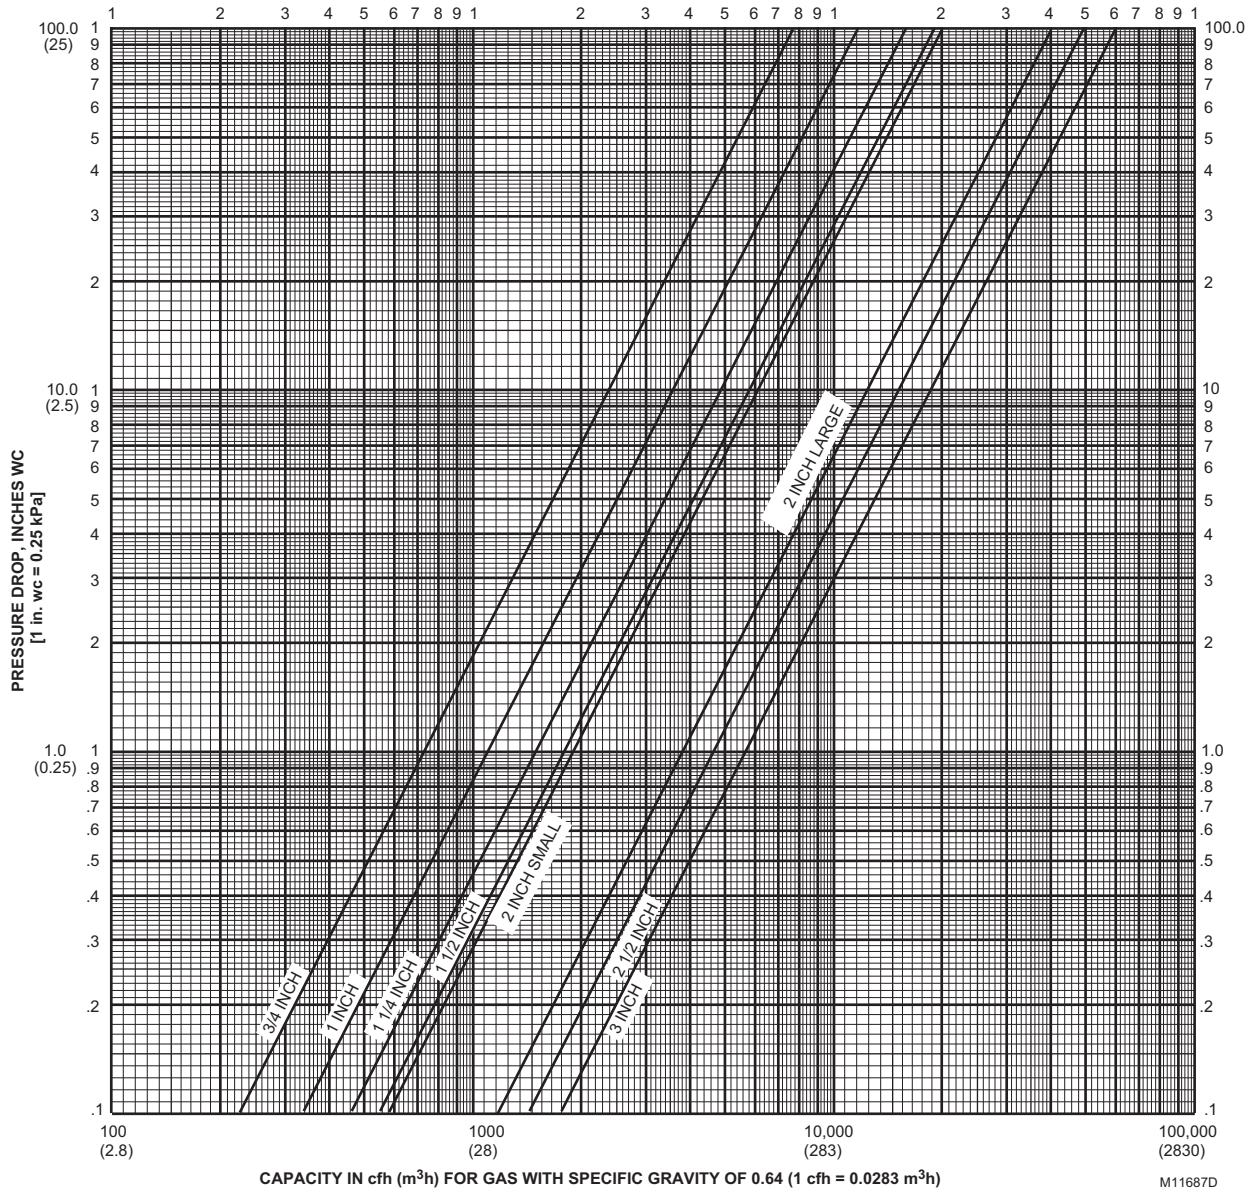

Fig. 4. Flow curves for V5097 valves.
5. Use the cfh capacity (for 0.64 or the corrected cfh from step 4) for determining the gas valve size in Fig. 4.
6. Determine the maximum pressure drop across the valve and draw a horizontal line at this pressure in Fig. 4.
7. Draw a vertical line in Fig. 4 at the capacity (cfh) previously determined. Use the corrected capacity for a gas with a specific gravity other than 0.64.
8. Use the valve size at the intersection of the horizontal and vertical lines. If the intersection is between valve sizes, use the next larger valve size in Fig.4.
Applying this number to Fig. 4, assuming a 1 in. wc pressure drop, use a 2 in. (large body) V5097 Valve for that flow (step 8 of Gas Valve Sizing).